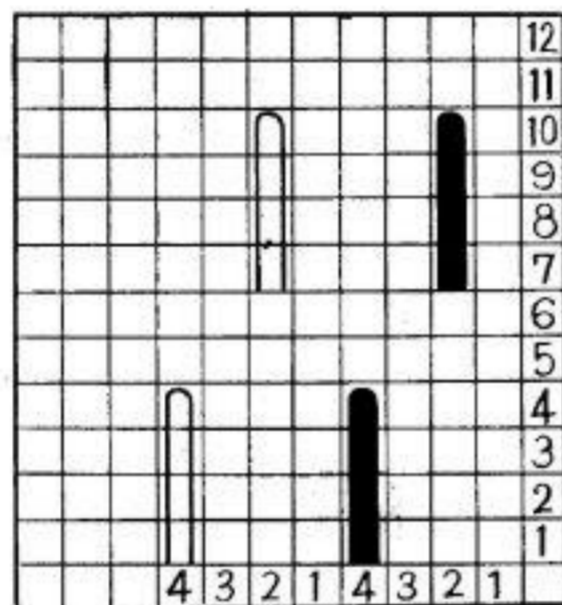

Fig. 30
- Fig. 30** (a) The symbol "⏏" indicates a tuck stitch.
**Pattern Chart** Refer to Fig. 30